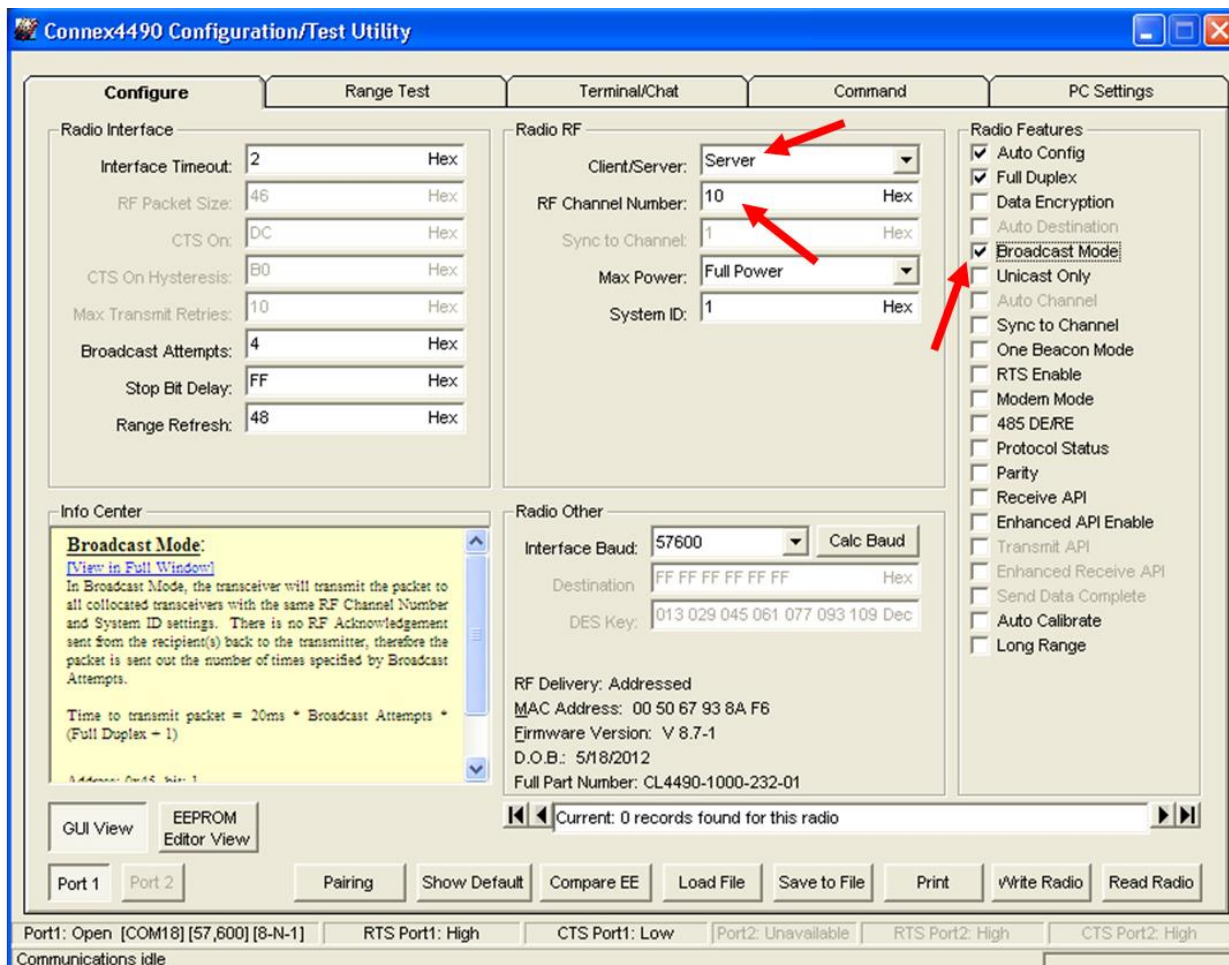

Figure 11: Hop Master settings
16. To configure the Hop Master, select **Server** and **Broadcast Mode**. Make note of the RF Channel Number (Figure 11). Once the appropriate changes have been made, click **Write Radio**. A Write Successful prompt appears after a successful write. Note that the values are shown using hexadecimal representation; you may change this to decimal notation by double-clicking on the word "Hex" (it changes to "Dec").